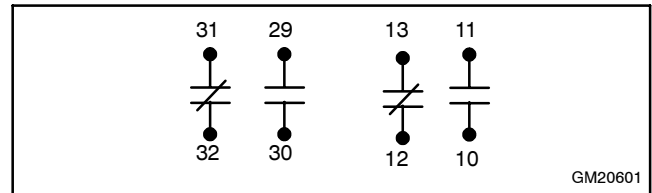

Figure 26 Auxiliary Contacts 10-13 and 29-32 (shown with contactor contacts in normal position)
- ATS emergency input (local). Connect wiring from the user-supplied transfer switch (ATS) emergency position auxiliary contacts 10-11. See Figure 26.